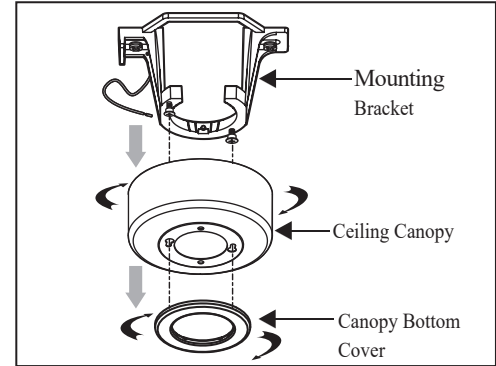

Figure 5
1. Remove the canopy bottom cover from the canopy by turning the cover counterclockwise. (Figure 5)
2. Remove the mounting bracket from the canopy by loosening canopy mounting screws a half turn from the screw head. Next, turn the canopy counterclockwise to remove the mounting bracket from the canopy. (Figure 5)